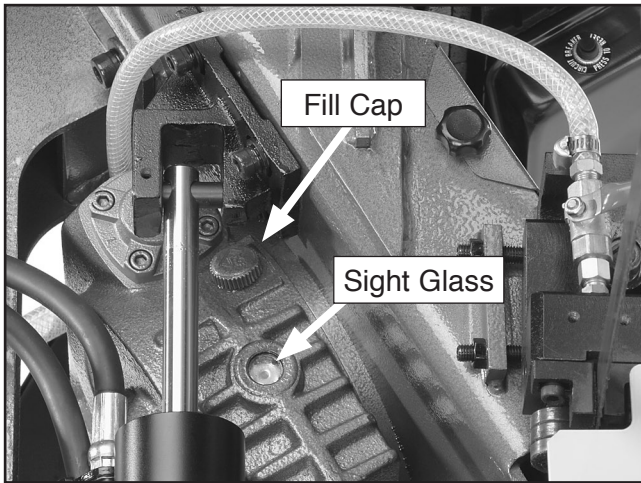

Figure 39. Gear box lubrication.
6. Open the fill cap and fill the gearbox with oil until you see the oil level reach the halfway point in the sight glass (see **Figure 39**).